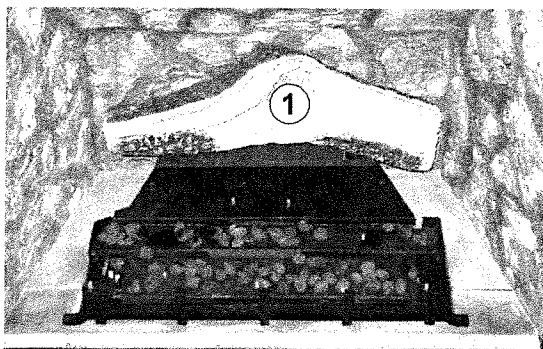

Figure 6.13 Engage Log #1 with the pins in the rear shelf.
1. Use work gloves and handle the individual logs carefully. Install the log set as shown in figures 6.13 - 6.18.